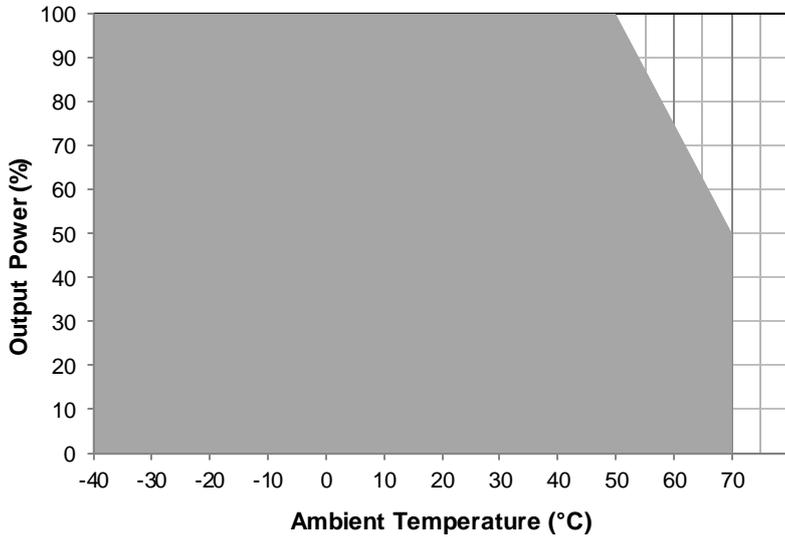

Fig. 1 De-rating for All Mounting Orientation
*³ For power de-rating, see power de-rating at Fig.1 on page 7
1. Power supply components may degrade, or be damaged, when the power supply is continuously used outside the shaded region, refer to the graph shown in Fig. 1.
- If the device is continuously operating outside the shaded region shown in Fig. 1. The device may be damaged or degraded.